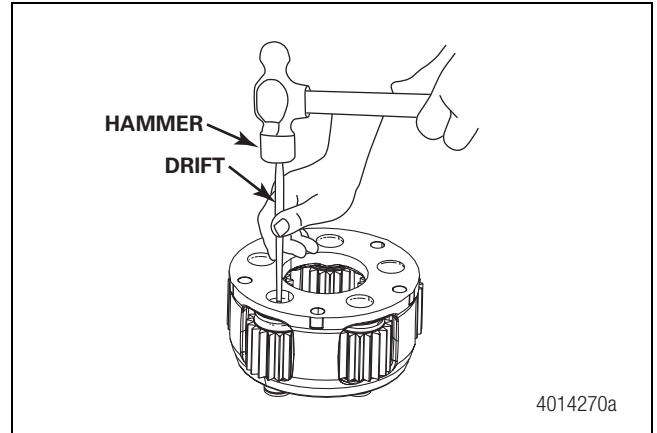

Figure 4.13
4. Use a drift to press out the pinion shafts. Figure 4.13.